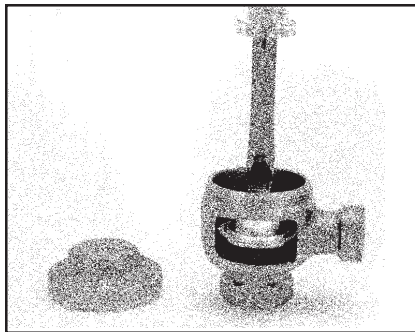

Fig. 1
4. Screw down Smart Wafer onto new seat and tighten using a standard $\frac{3}{8}$ " 6 point socket. (Do not over tighten or hex part will shear off.) (See Fig. 1)
4. Screw down Smart Wafer onto new seat and tighten using a standard $\frac{3}{8}$ " 6 point socket. (Do not over tighten or hex part will shear off or adapter may come loose.) (See Fig. 1)